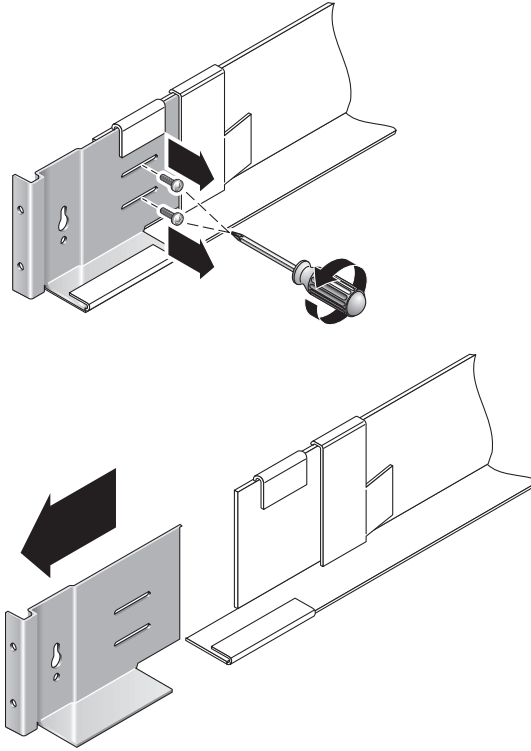

FIGURE 2-2 Removing the Rail Extension for the Sun Fire Cabinet
- For the Sun Fire cabinet, use the #2 Phillips screwdriver to loosen and remove the side-rail screws. Remove the rail extension from the rail (FIGURE 2-2).